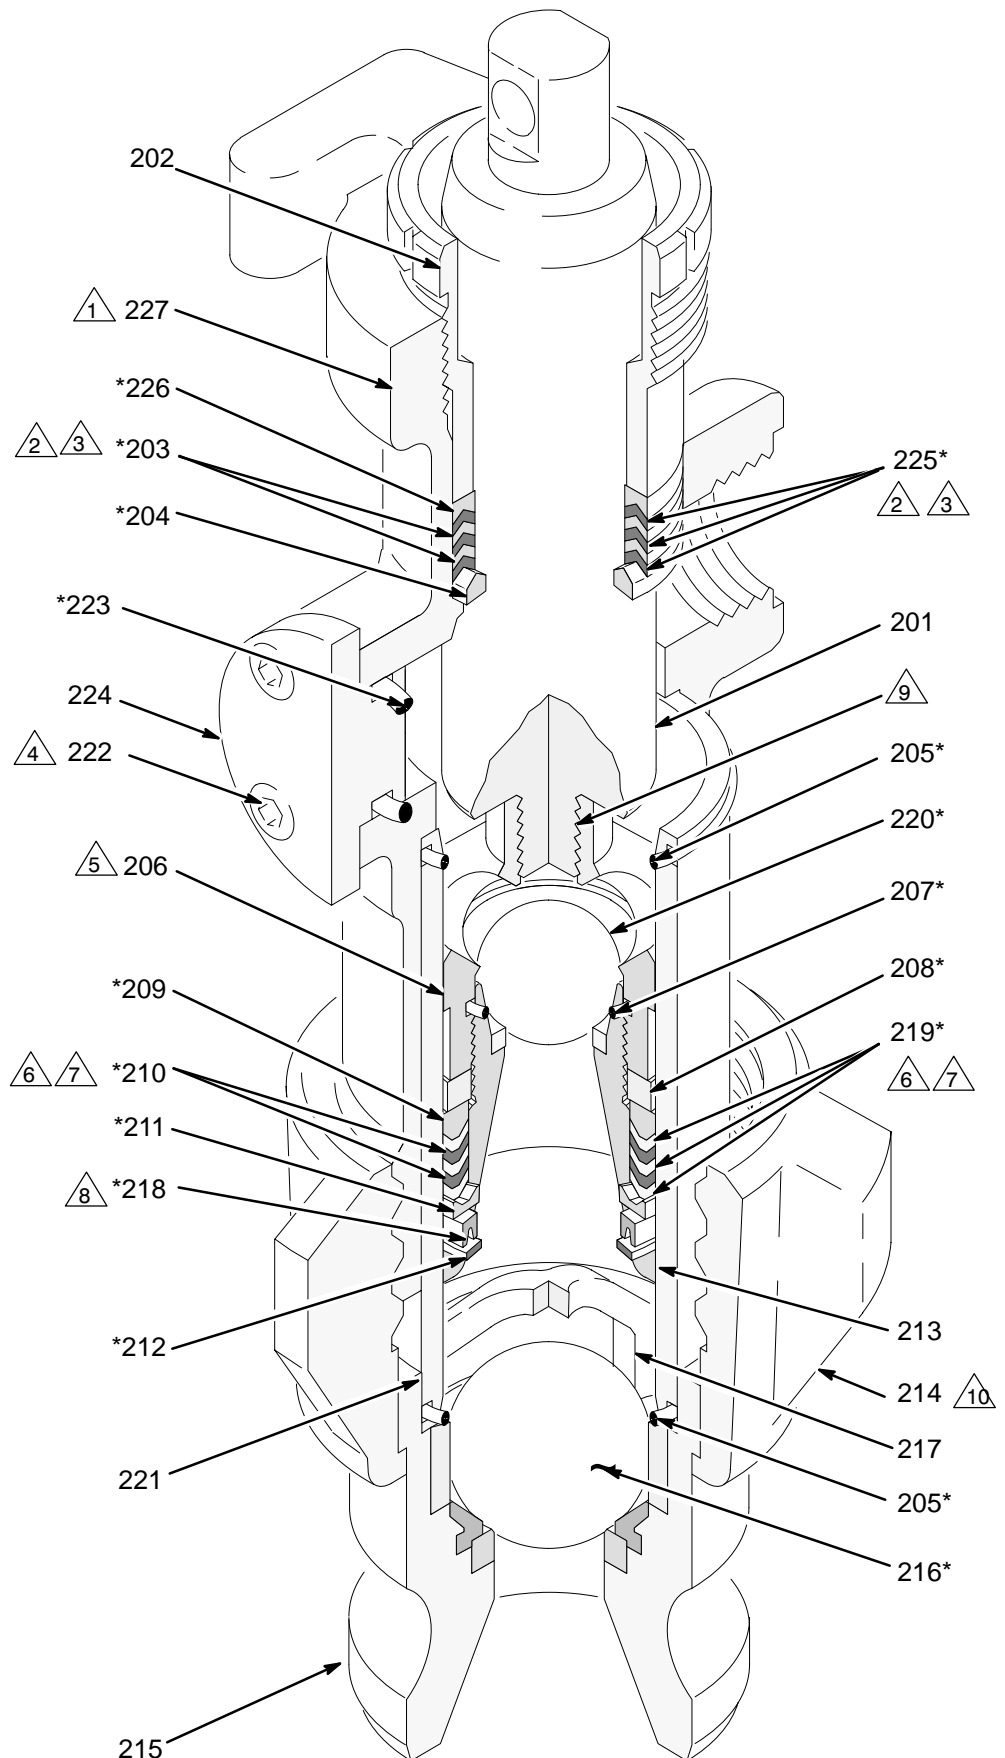

Fig 4
2. Use a hammer on the tabs of the lug nut (214) to loosen the foot valve housing.
3. Disassemble the pump, but do not disassemble the piston rod (201) from the piston housing (206) unless one of those parts needs to be replaced. Due to the high-strength (red) Loctite® used at the joint of these two parts, the joint must be heated before disassembly. Refer to Fig 4.
NOTE: Refer to Fig 4.